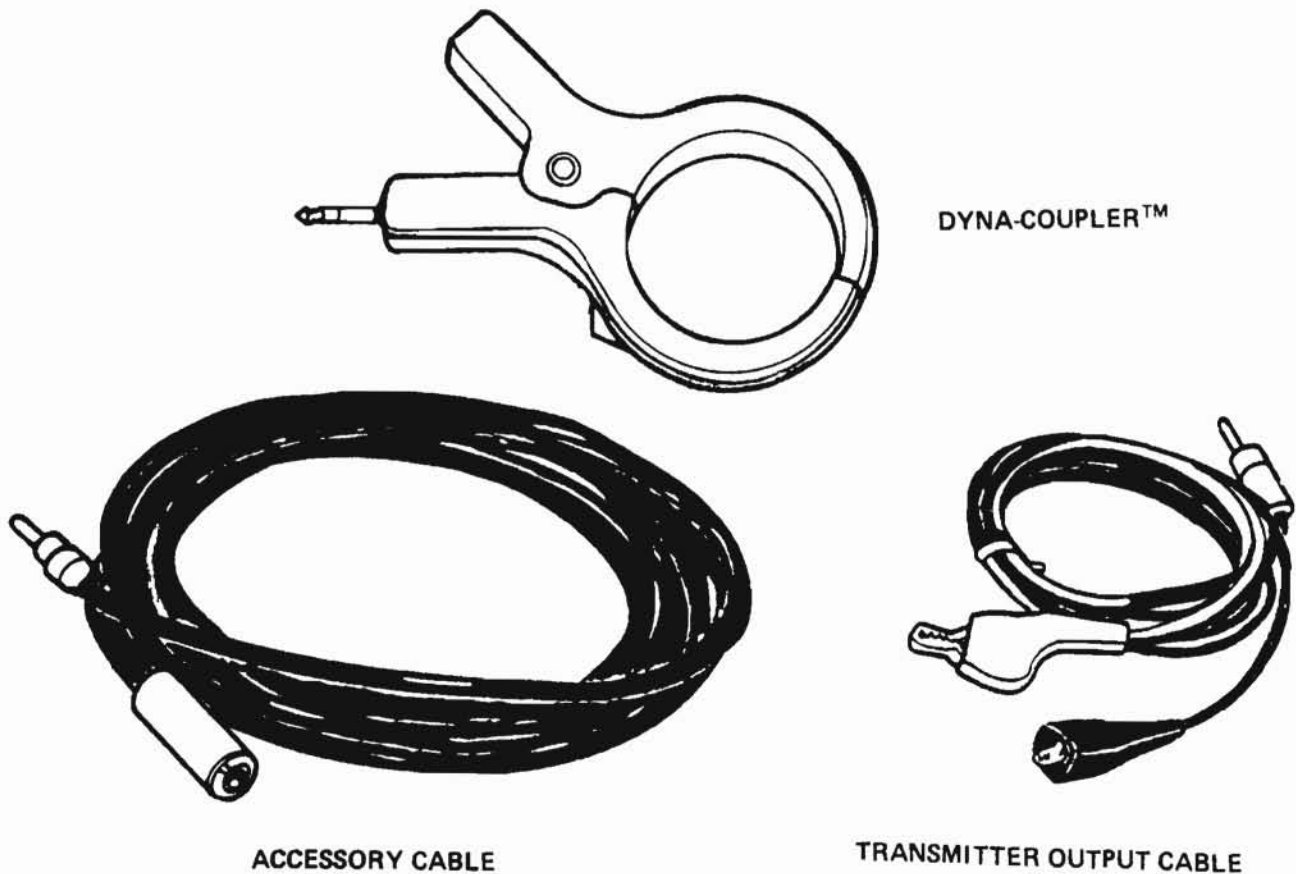

Fig. 2 - Dynatel 500 Accessories
**2.01** The Cable Locator consists of a transmitter, receiver, and accessory units (Fig. 2). The transmitter and receiver are made of durable yellow fiberglass for light weight and high visibility, and water-resistance in wet-weather operation. For compact storage and carrying, the receiver and accessory units fit into the transmitter case when not in use.